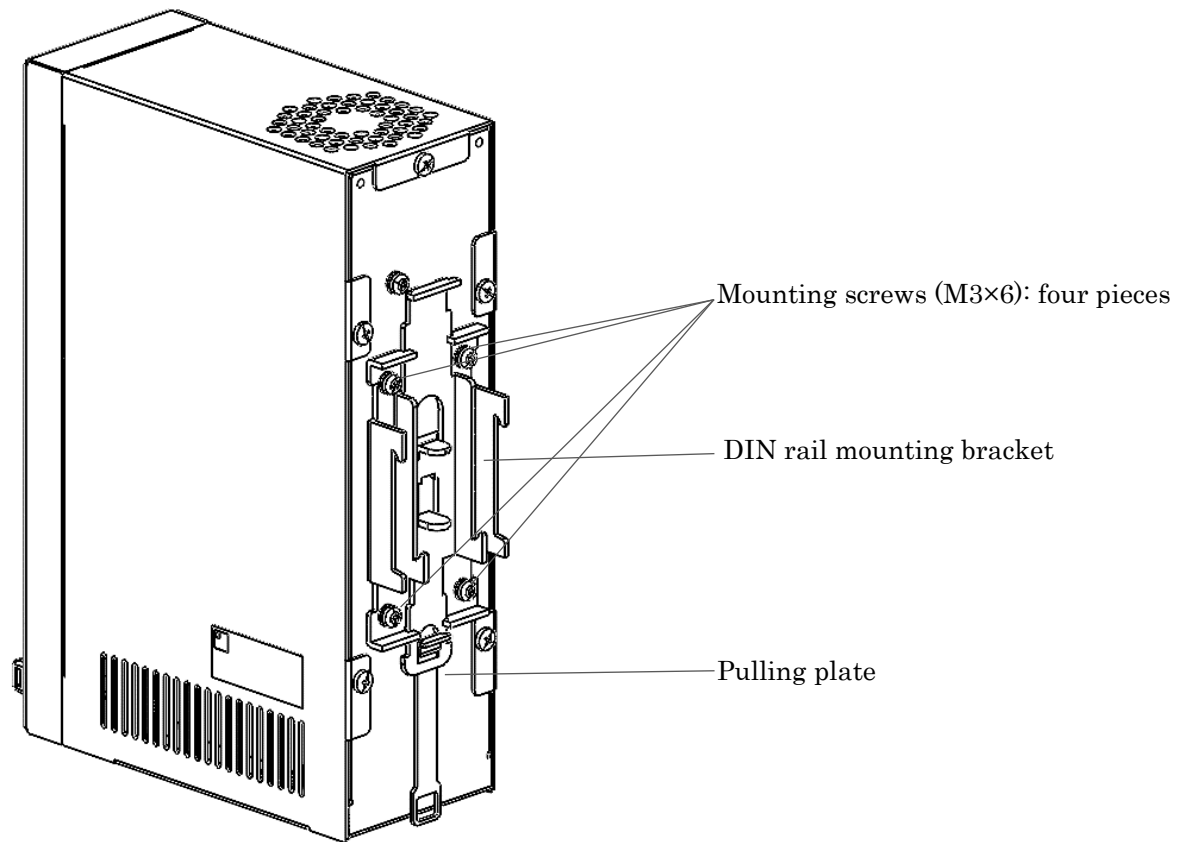

Fig. 5: DIN rail mounting bracket installation drawing (rear face)
* As shown in Fig. 5, clamp the pulling plate with the mounting brackets, then secure the brackets with the mounting screws.